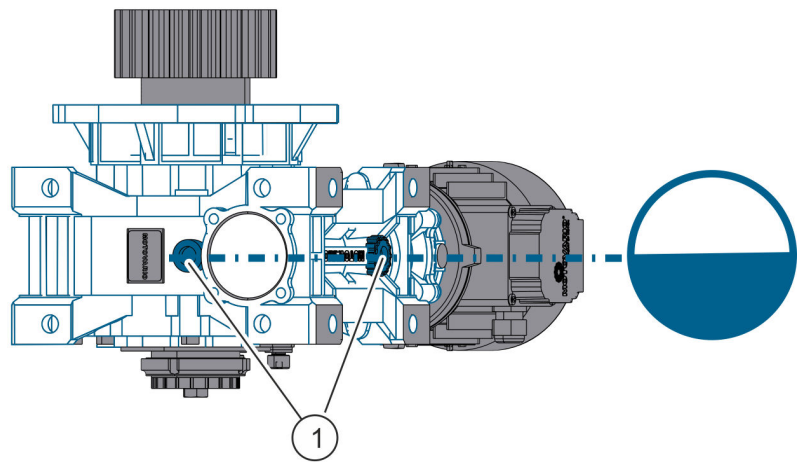

Fig. 25: Motor gear oil
- ➔ Check the oil level via the inspection holes (Fig. 25/1).